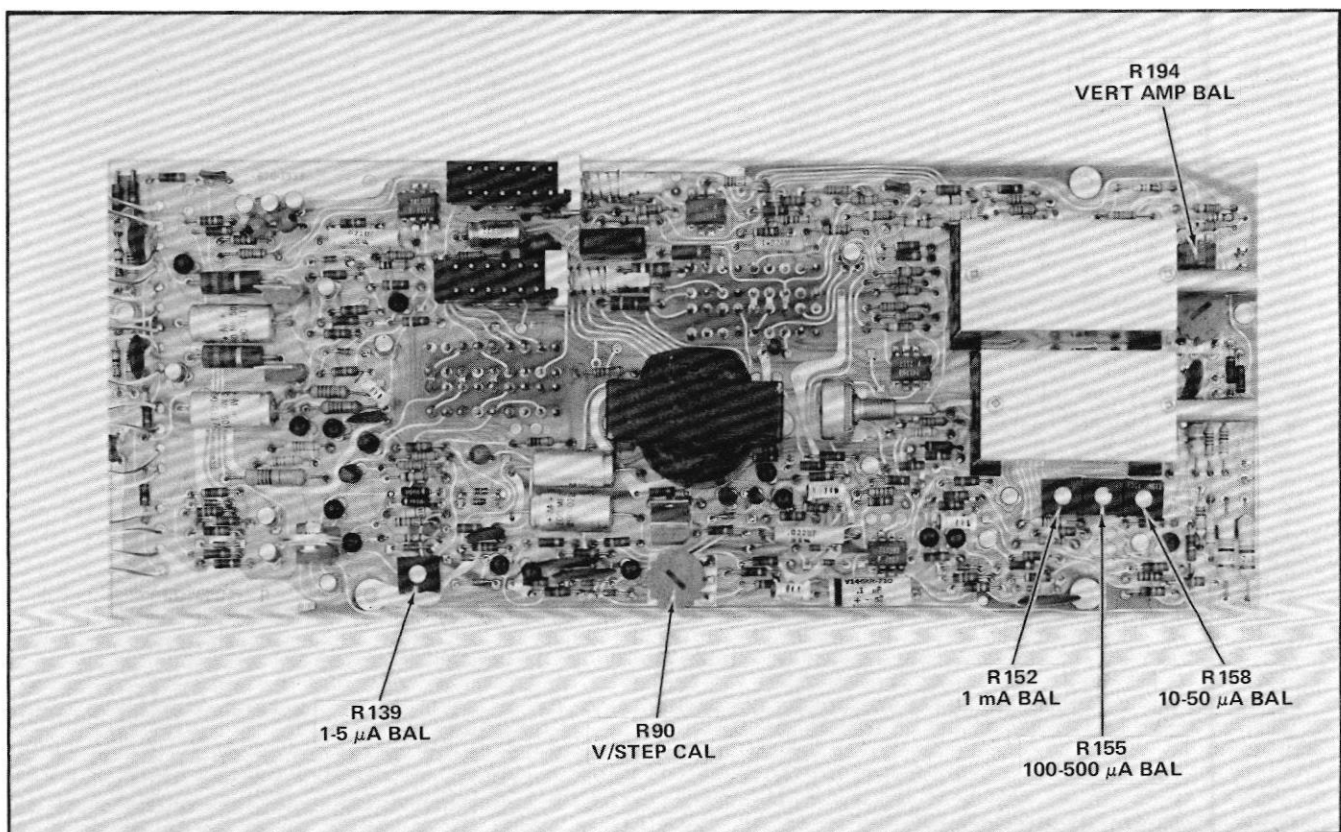

Fig. 3-1. Location of internal adjustments for the 7CT1N.
d. ADJUST—R194, the VERT AMPL BAL adjustment (see Fig. 3-1), for no vertical shift in spot between the two positions of the VERTICAL switch.
e. ADJUST—R139, the 1-5 μ A BAL adjustment (see Fig. 3-1), to move the trace to the center horizontal graticule line.